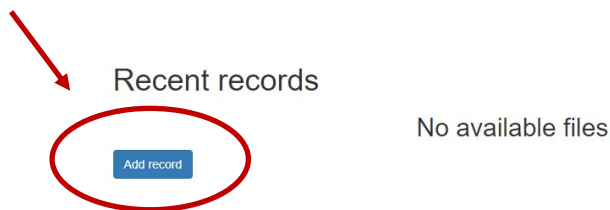

Figure 48. Add Record
3. After you have successfully logged in and you are on the, “dashboard” page, click the, “add record” button on the left-hand side of the page (Fig. 48).